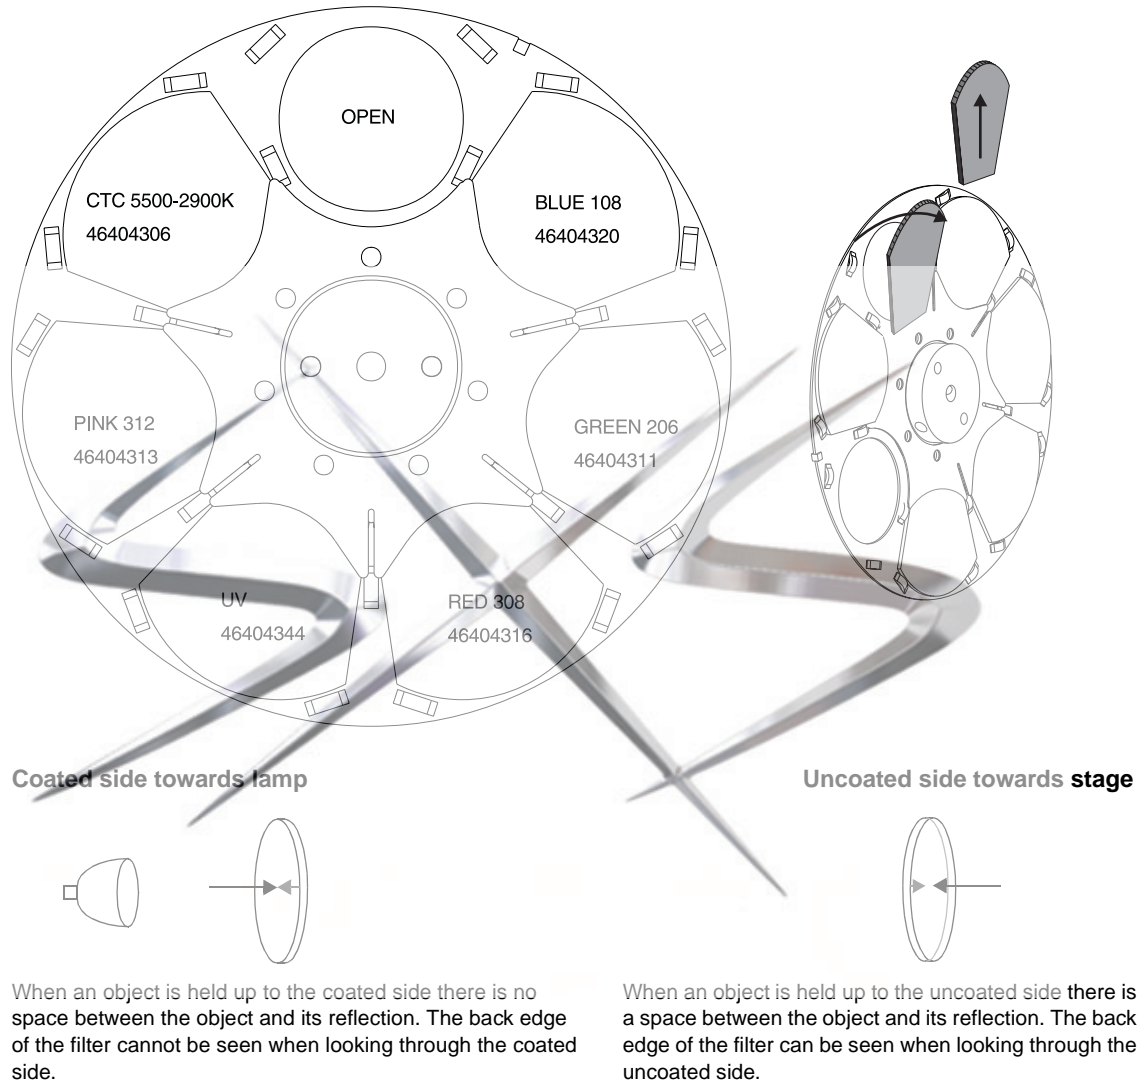

Figure 6: Color filter removal and positioning
4. Gently tilt the filter out of the clips as shown in Figure 6 and remove.